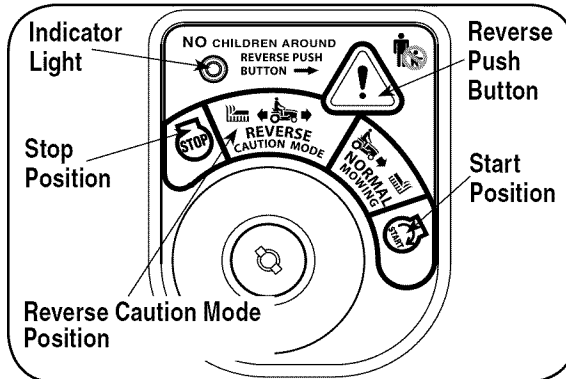

Figure 6
2. Turn the key from the NORMAL MOWING (Green) position to the REVERSE CAUTION MODE (Yellow) position of the key switch module. See Figure 6.
Triangular Button) at the top, right corner of the key switch module. The red indicator light at the top, left corner of the key switch module will be ON while activated. See Figure 6.